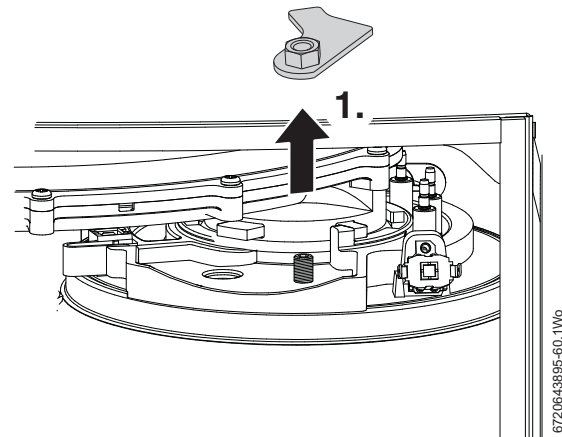

Fig. 84 Securing nut
1. Refer to figure 84 and undo the securing nut on the top of the heat exchanger and remove the retaining plate assembly.